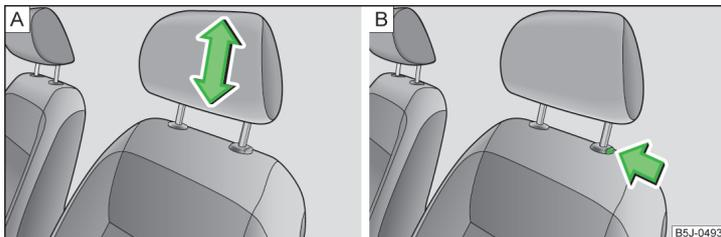

Fig. 59 Head restraint: adjusting/removing
- Grasp the side of the head restraint with both hands and push it upwards as required » Fig. 59 - [A].
- To move the head restraint downwards, press and hold the safety button » Fig. 59 - [B] with one hand and push the head restraint down with the other hand.
- Press the locking button in the direction of the arrow » Fig. 59 - [B] and pull the head restraint out.